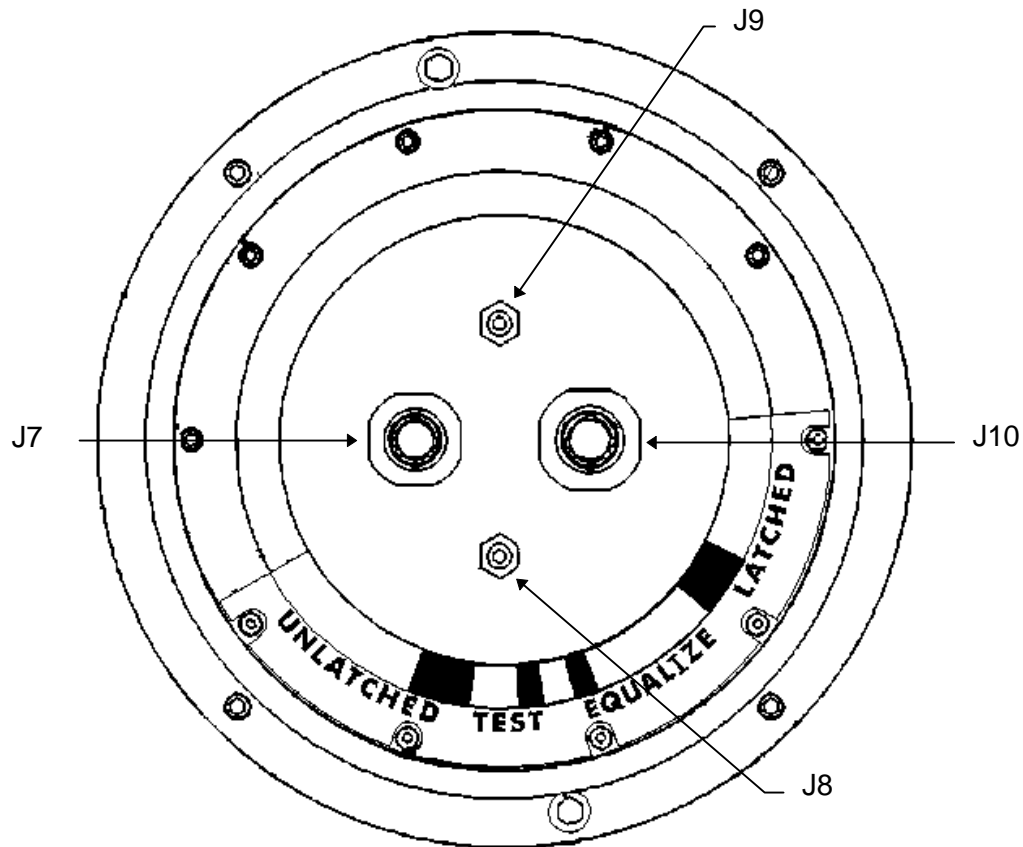

Figure 4.- Port and Starboard Hatch Plate.
29. Remove connector caps (sixteen), stow in Ziploc Bag, and mate connectors (eight) per Table 1 and Figure 4.